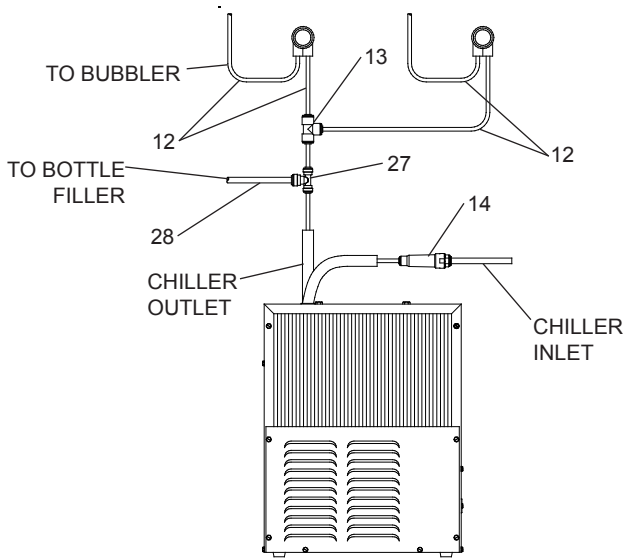

Figure 2 - HTHB-OVLSER-I Tube Routing
- 3a. **(For HTHB-OVLSER-I)** Install strainer on the input tube to the chiller (Fig. 2).